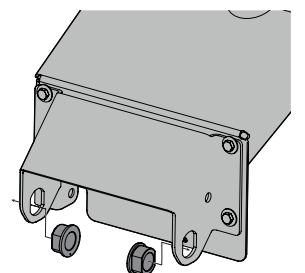

Figure 6
- Insert flanged bearings (741-0192) from hardware pack 689-02139 into front mounting bracket. See Figure 6.